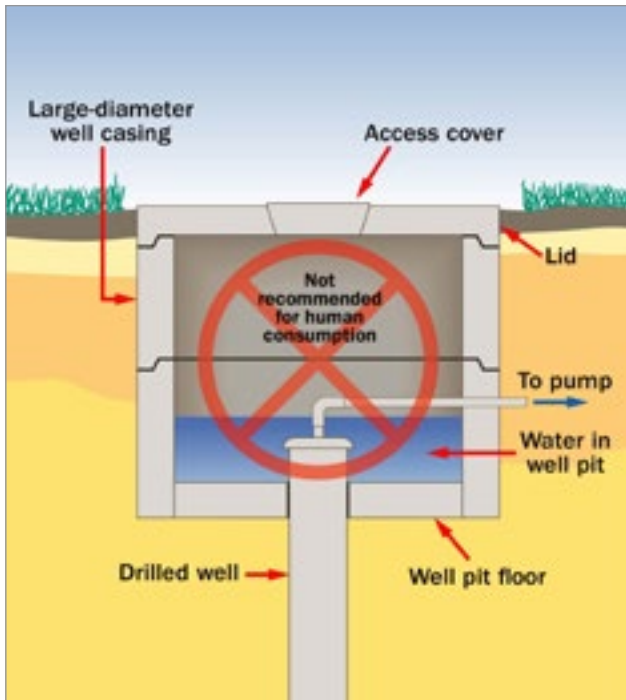

Figure 6. An existing well pit created by constructing a drilled well in an old large-diameter well.
- drilled wells constructed in old large-diameter wells (Figures 6 and 7)